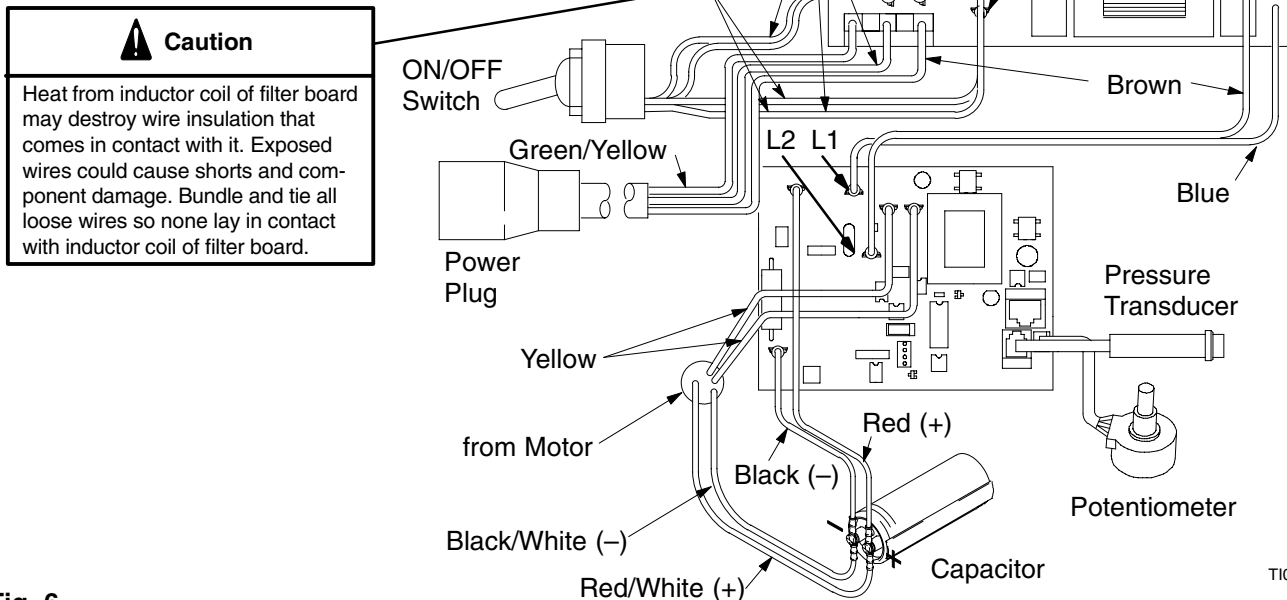

Fig. 6
2. Fig. 6. Remove pressure control cover (39).
3. Disconnect four wires (A) at ON/OFF switch (23).
4. Remove toggle boot (25) and locking ring (24). Remove ON/OFF switch (23).
Refer to Fig. 6.
2. Fig. 6. Install motor control board (35) with five screws (36).
3. Connect to motor control board (35):
- Lead (E) to transducer.
- Lead (D) to potentiometer.
- Filter board (X) (not 120 Vac sprayers).
4. Bundle and tie all loose wires so none lay in contact with inductor coil on filter board (not 120 Vac sprayers). See **Wiring Diagram CAUTION**, Fig. 6.
5. Install cover (39) with four screws (18).